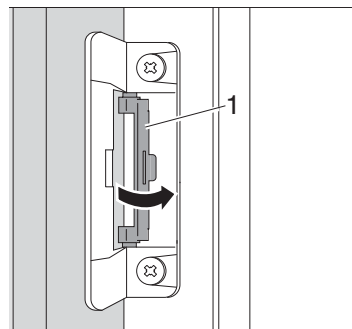

Fig. 281 Turning the latch back to the initial position
- Turn the latch (Fig. 281,1) back to the initial position.